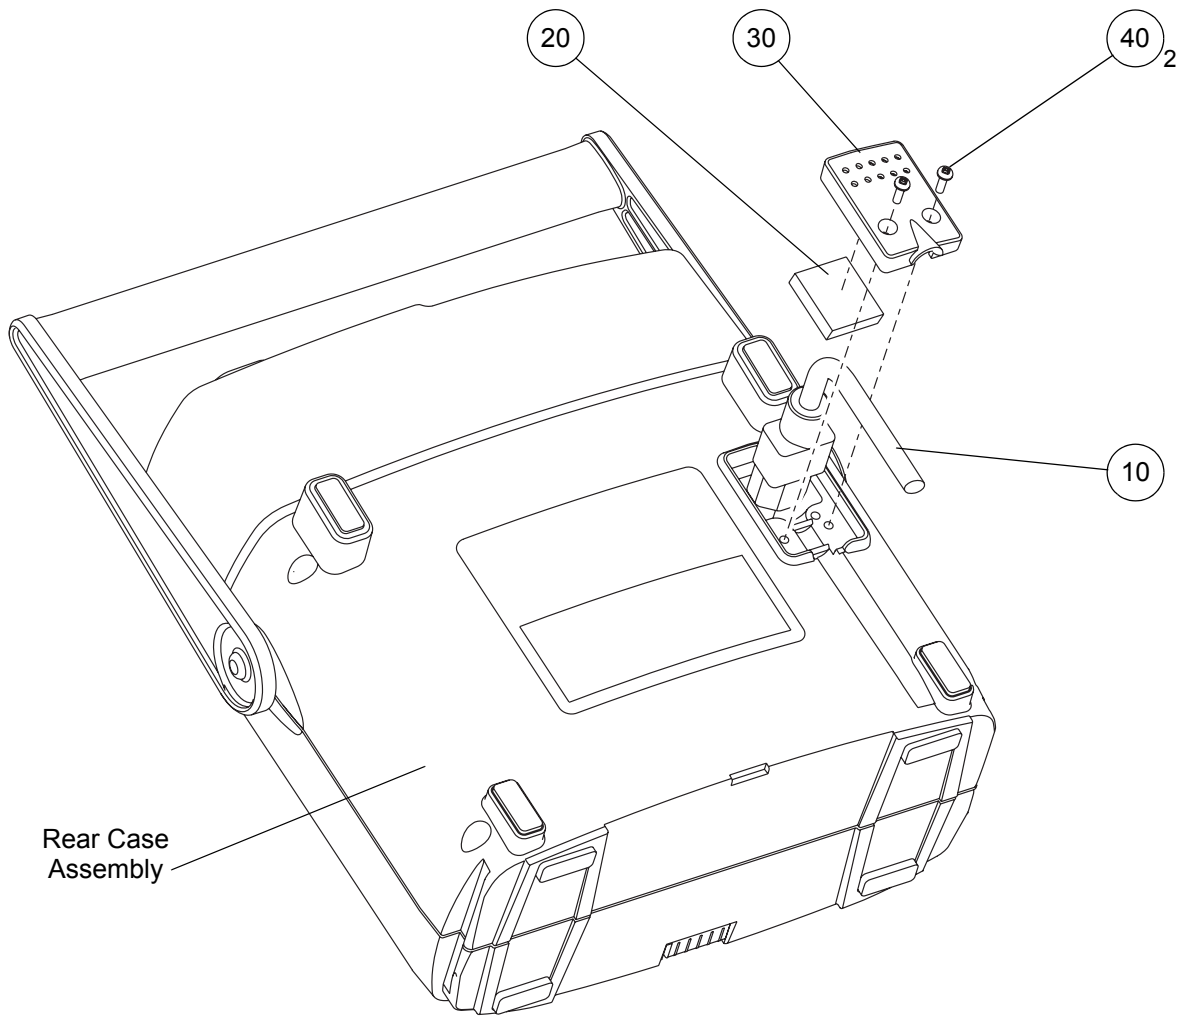

Figure 16 - Replacing the Mains/Power Cordset and Inlet Filter Felt
- 4.2 Remove the two pozi screws (Fig 16, Item 40), the case IEC cover (Fig 16, Item 30) and the inlet filter felt (Fig 16, Item 20) out of the rear case.
Note: *The case IEC cover is a tight fit in the rear case. Removal of this cover is made easier if the two screws are removed completely from the cover, and then the mains/power cordset (Fig 16, Item 10) is carefully moved up and down while the cover is removed.*
- 5.1 Make sure the mains/power IEC cordset connector (Fig 16, Item 10) is pushed fully into the IEC connector inside the pump. Place the cordset cable into the groove in the rear case.
- 5.2 Push the case IEC cover (Fig 16, Item 30) and inlet filter felt (Fig 16, Item 20) into the slot in the rear case.
- 5.3 Install the two pozi screws (Fig 16, Item 40) to secure the case IEC cover and the cordset cable.
- 6.2 Remove the inlet filter felt (Fig 16, Item 20) from the back of the case IEC cover (Fig 16, Item 30), and discard.
- 7.2 Pull the mains/power IEC cordset connector (Fig 16, Item 10) out of the IEC connector inside the pump.
CAUTION: Make sure the replacement mains/power cordset (Fig 16, Item 10) is the correct type and rating, or the electrical safety of the pump may be impaired.
- 8.1 Carefully push the mains/power IEC cordset connector (Fig 16, Item 10) fully into the IEC connector inside the pump. Place the cordset cable into the groove in the rear case.